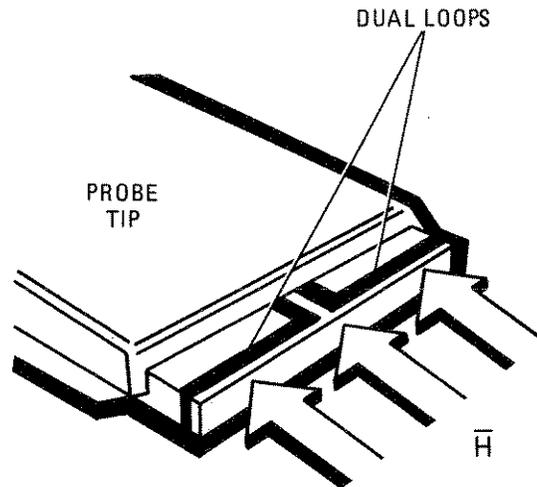
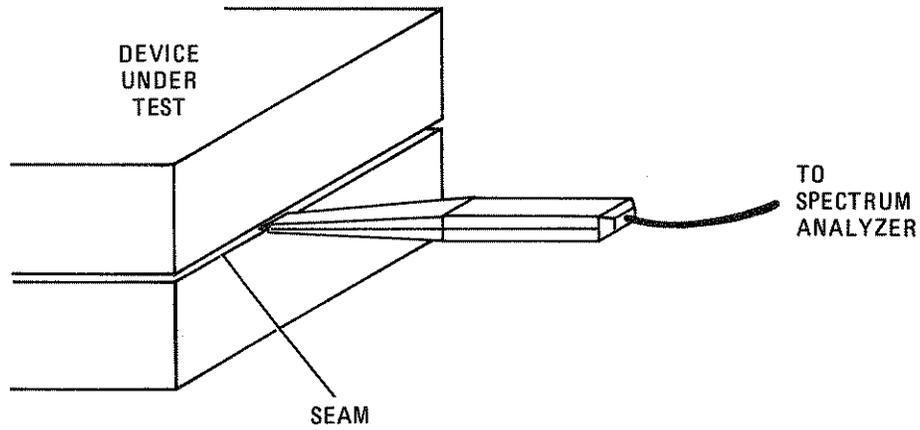

Figure 2. Magnetic Field Orientation for Maximum Coupling
Figure 7. Testing an Enclosure Seam
3-3. The HP 11940A is a balanced magnetic field sensor that provides an output voltage proportional to the strength of the magnetic field at its tip. Radiated magnetic fields couple directly to the HP 11940A and produce an output signal; radiated electric fields also couple to the HP 11940A but do not produce an output voltage due to the construction of the probe. The HP 11940A uses a dual-loop sensor and a balun to reject electrically coupled signals. See Figure 2. The probe preserves frequency information and is ideally suited for use with a spectrum analyzer. The HP 11940A circuitry is passive and therefore only contributes thermal noise to any measurement system. Inspect the probe tip for damage before using.
**3-18.** The probe is designed to be held very close to potential radiating points. The plane of the probe tip loops must be perpendicular to the radiating magnetic field as illustrated in Figure 2. For example, if the seam of an enclosure is being tested for EMI, hold the probe as illustrated in Figure 7. When measuring the